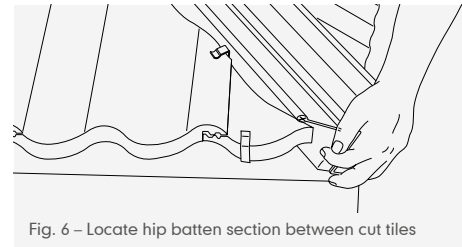

Fig. 6 – Locate hip batten section between cut tiles
- 8 Locate batten section assembly into gap between cut tiles up length of hip. Two or more lengths may be joined together up hip, ensuring that closed cell foam rubber strip from each section abuts tightly to prevent water ingress (Fig. 6).